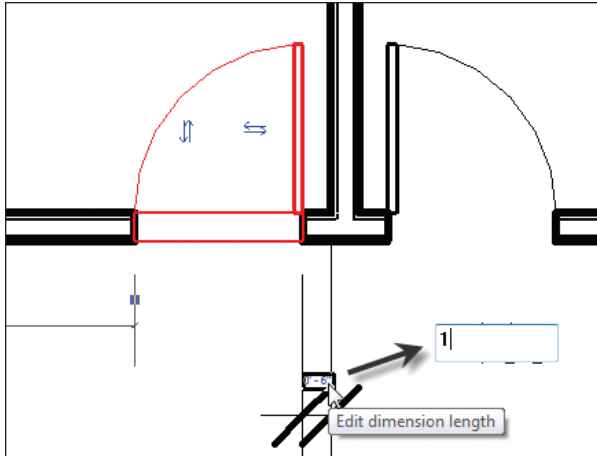

FIGURE 5.39 Making adjustments with the actual dimension
4. Select the door. Notice the dimension turns small and blue. It is now ready to be modified, as shown in Figure 5.39.